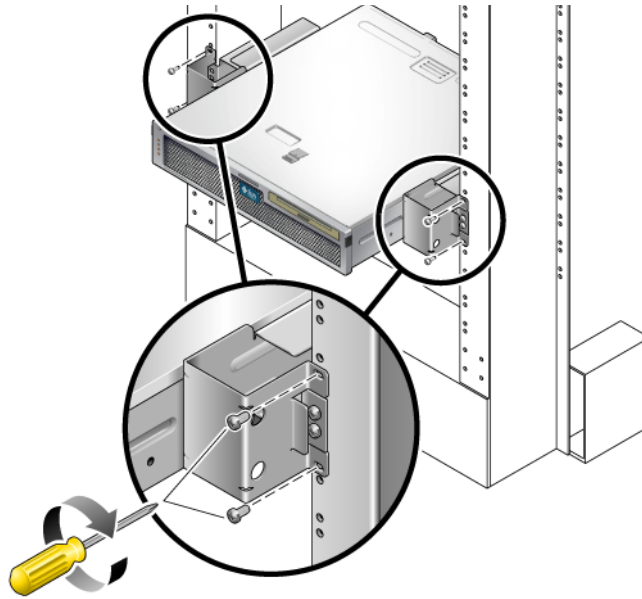

FIGURE 3-4 Installing and Securing the Server in the 2-Post Rack
5. Lift the server into the rack and slide the server onto the rail guides (FIGURE 3-4).
6. Using two screws on each side, secure each side bracket on the server to the front of the rack (FIGURE 3-4).